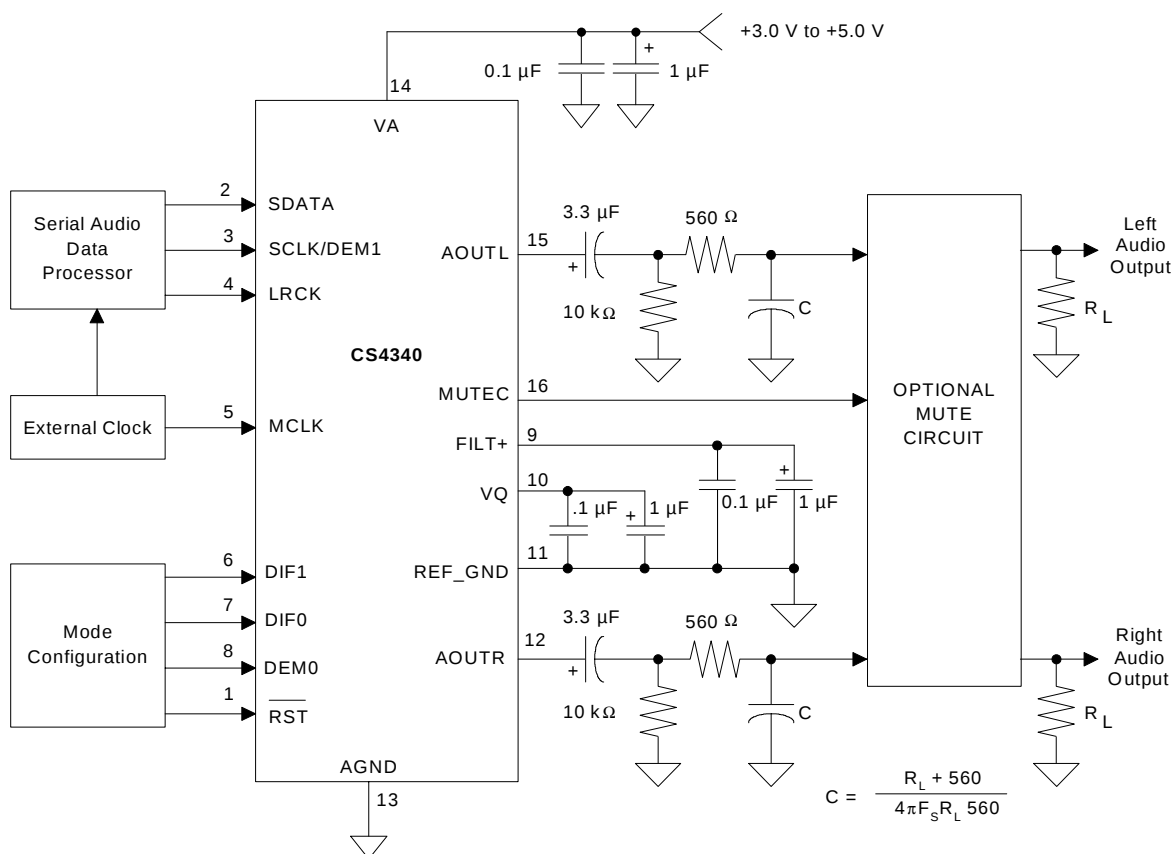

Figure 14. Typical Connection Diagram
10. Valid with the recommended capacitor values on Filt+ and V_Q as shown in Figure 14. Increasing the capacitance will also increase the PSRR.
As with any high resolution converter, the CS4340 requires careful attention to power supply and grounding arrangements if its potential performance is to be realized. Figure 14 shows the recommended power arrangements, with VA connected to a clean supply. If the ground planes are split between digital ground and analog ground, REF_GND & AGND should be connected to the analog ground plane.